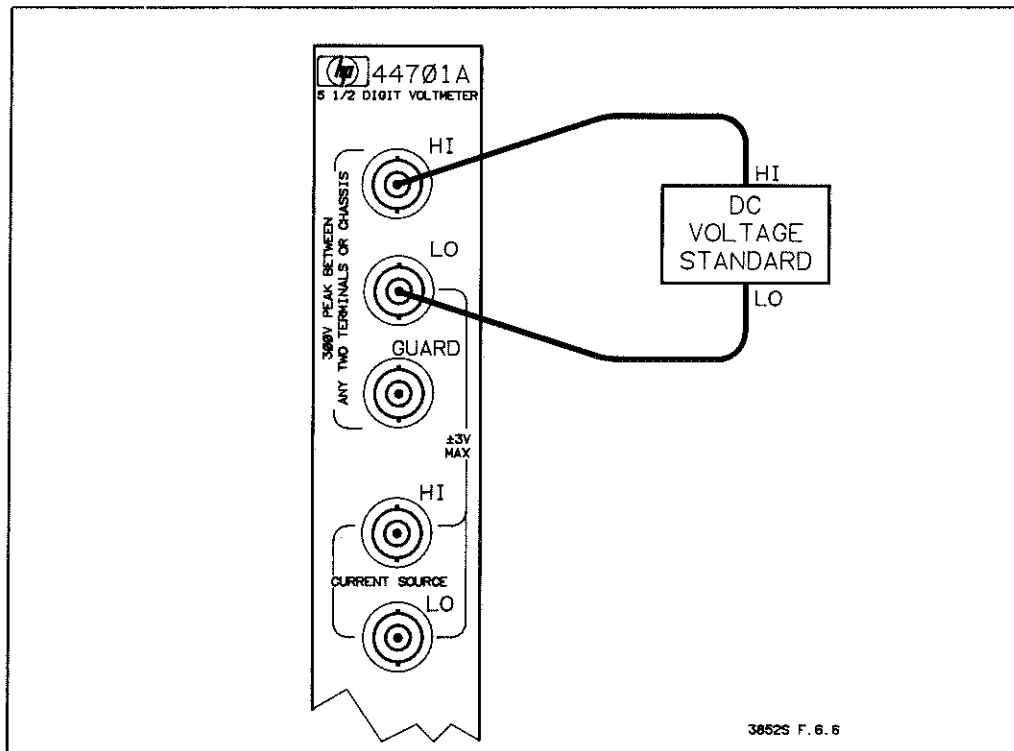

Figure 6-6 DC Voltage Gain Calibration
11. Make sure the DC Voltage Standard output is turned off or set the output to 0 volts. Then connect the DC Voltage Standard to the rear HI and LO Input Terminals of the HP 44701A Integrating Voltmeter accessory. The connections are shown in Figure 6-6.